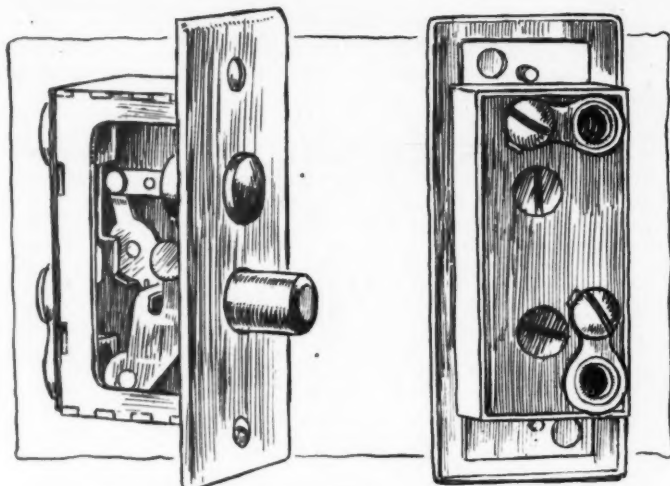

Fig. 1—Hart &amp; Hegeman push switch
**A** PUSH SWITCH specially constructed for automobile lighting systems, is made by the Hart & Hegeman Mfg. Co., Hartford, Conn. This switch, Fig. 1, is constructed along the same lines as the ordinary house switch, and consists of two push-buttons which bear upon a pivoted lever, so that by depressing one the other button is raised above the plane of the metal face of the switch. The face of one button is finished in white and that of the other in black, and linked to the white button is a short lever which is raised or depressed by raising or depressing the button. If the latter is pressed in, the end of the short lever contacts with a plate inside the back of the switch. This plate is connected to one of the terminals on the back of the switch—which are seen in the illustration to the right—the other terminal is connected to the short lever.